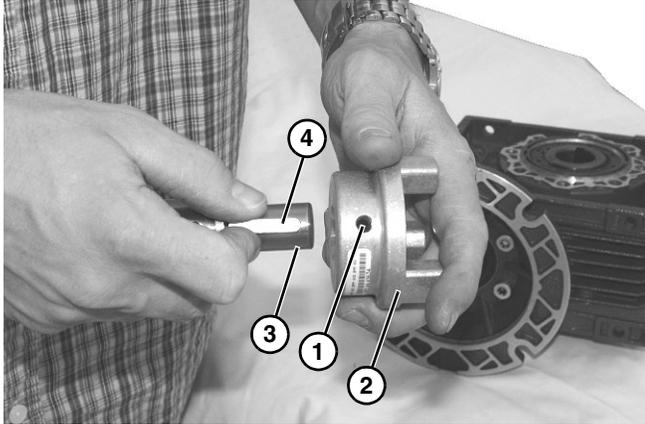

Figure 10
- Inspect gear reducer output shaft assembly for wear or damage. If necessary, loosen set screw (**Figure 10, item 1**) and remove 3 jaw coupling (**Figure 10, item 2**) from gear reducer output shaft (**Figure 10, item 3**).
- Remove and retain key (**Figure 10, item 4**) from shaft. Install new components for shaft reverse of removal. Tighten set screw (**Figure 10, item 1**) to 35 in-lb (4 N-m).
*If replacing the 3 jaw coupling on conveyor or output shaft, the coupling hub surface (**Figure 10, item 1**) should be flush to both output shaft (**Figure 10, item 2**).*